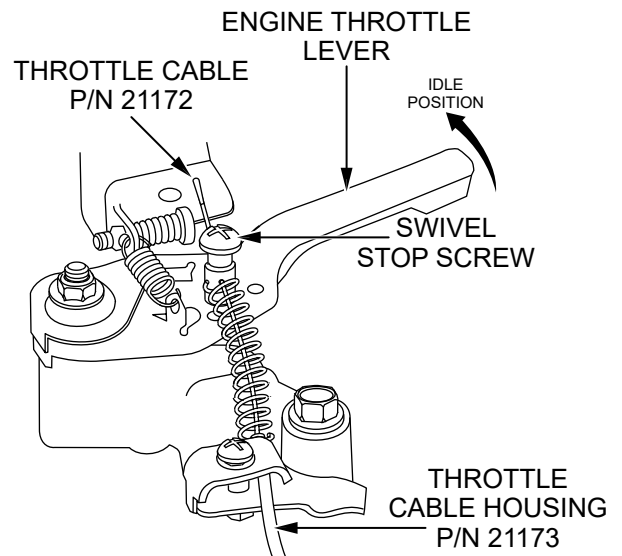

Figure 14. Adjust Throttle Cable
14. With the **throttle lever** (P/N 22732) in the aftmost position, loosen the **swivel stop screw** (Figure 14) on the engine throttle control and use needle-nose pliers to pull the **throttle cable** (P/N 21172) tight.
16. Make sure the **engine throttle lever** is fully in the **IDLE** position (Figure 14), then tighten the **swivel stop screw** to capture the throttle cable position. If excess throttle cable is protruding from the throttle lever, trim the cable to the approximate length shown in Figure 14.